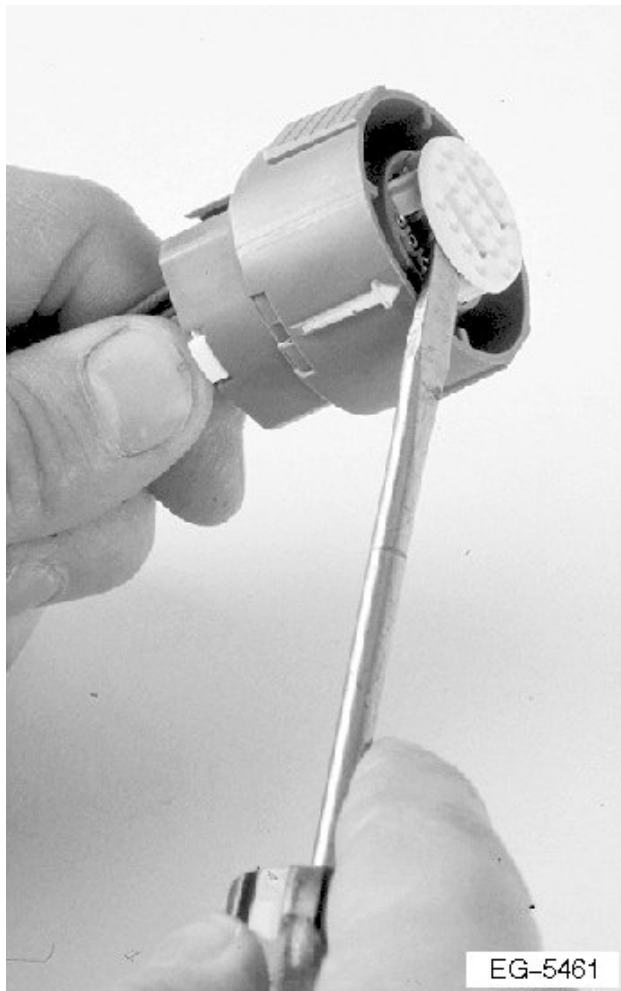

Figure 278 Remove Terminal Lock
1. Using a small screwdriver pry the terminal lock out of the connector body (See Figure 278, page 445).